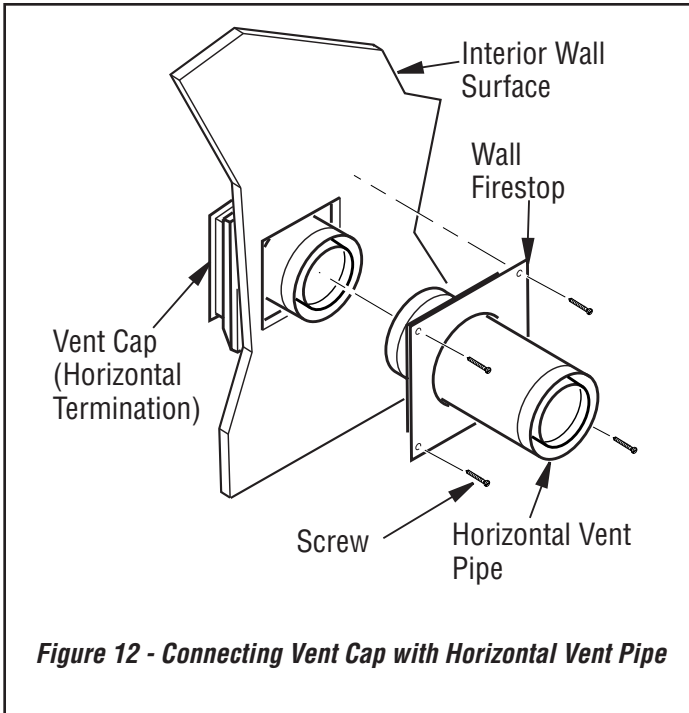

Figure 12 - Connecting Vent Cap with Horizontal Vent Pipe
6. **Connecting Vent Cap with Horizontal Vent Pipe:** Slide wall firestop over vent pipe before connecting horizontal run to vent cap (see **Figure 12**, page 21).